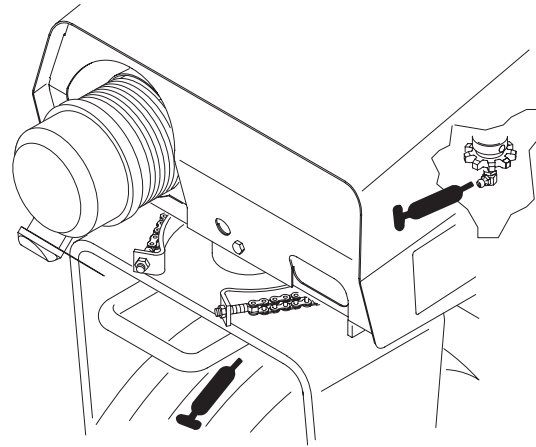

Figure 13
- Steering shaft and sprocket (Fig. 13)